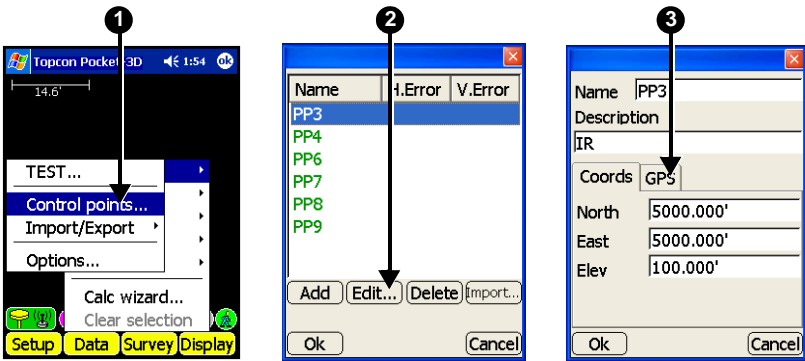

Figure B-11. Select Control Point to Localize
1. Ensure the control point file for the jobsite is selected (**Data ▶ Control**) and select the equipment configuration for the current setup (**Setup ▶ Equipment**) (Figure B-11 on page B-9).